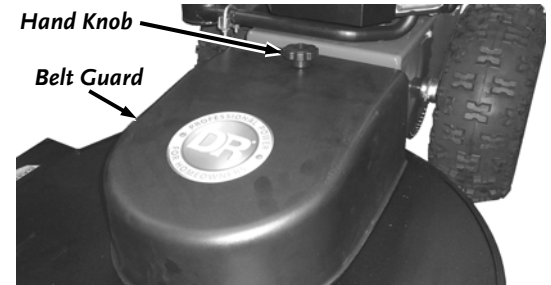

Figure 36
1. Unscrew the Hand Knob and remove the Belt Guard (**Figure 36**).